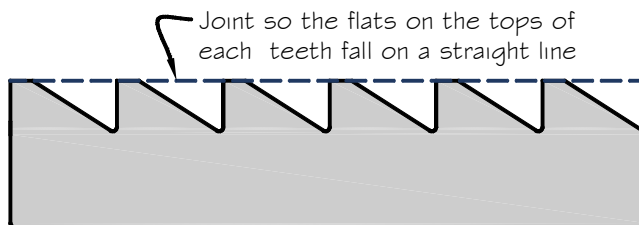

Figure 2. Joint the teeth.
2. Joint the teeth - Joint the teeth until a flat of about 1/32" - 1/16" is present on the tip of each tooth (Figure 2).